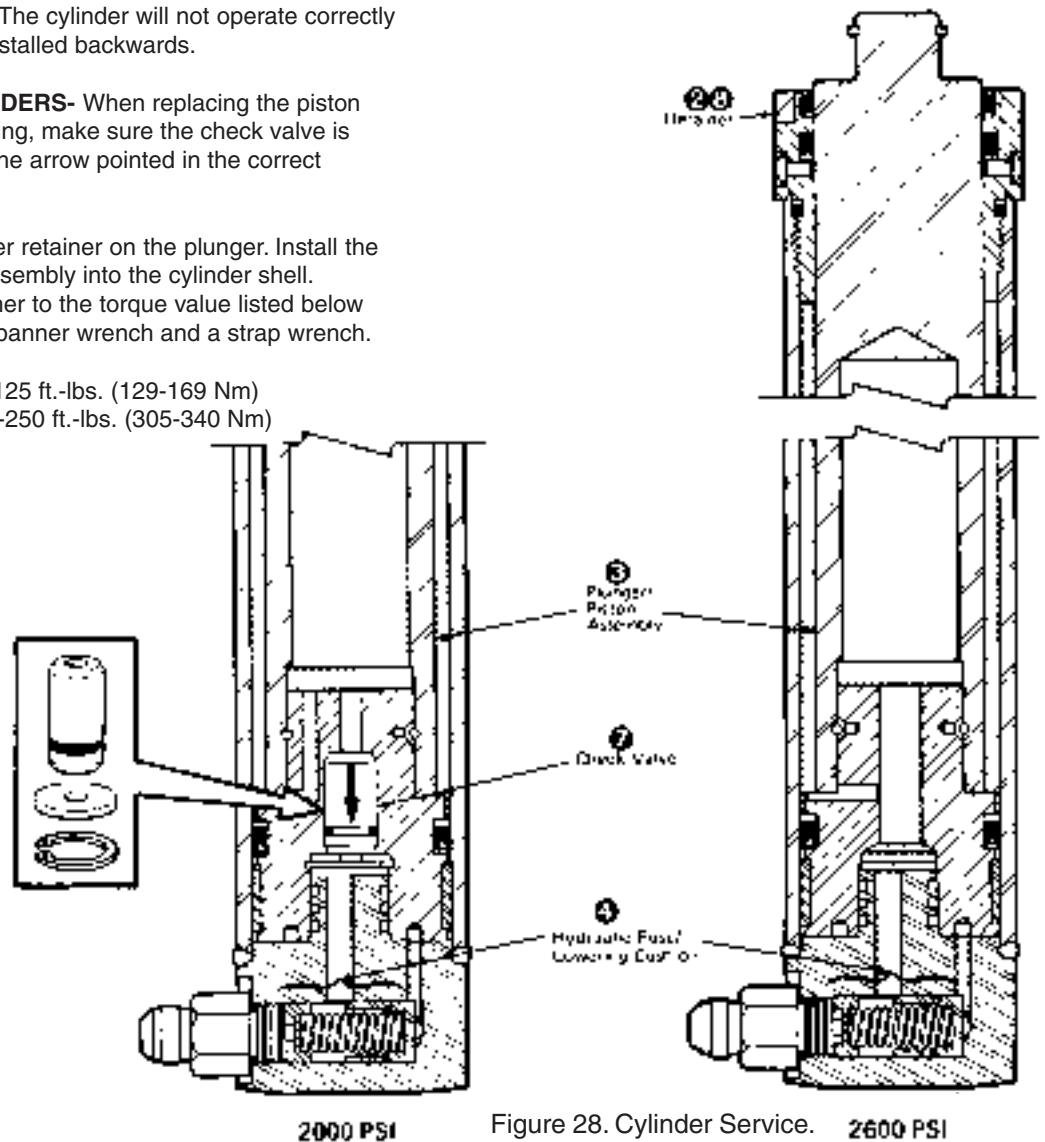

Figure 28. Cylinder Service. 2600 PSI
*Adjust the carriage side thrust rollers for unrestricted clearance along the travel of the carriage. The rollers have eccentric mount bases. Turn the base of the roller toward the upright rail to decrease clearance. See Figure 28. Tighten the capscrews to a torque of 70-80 ft.-lbs. (95-110 Nm).